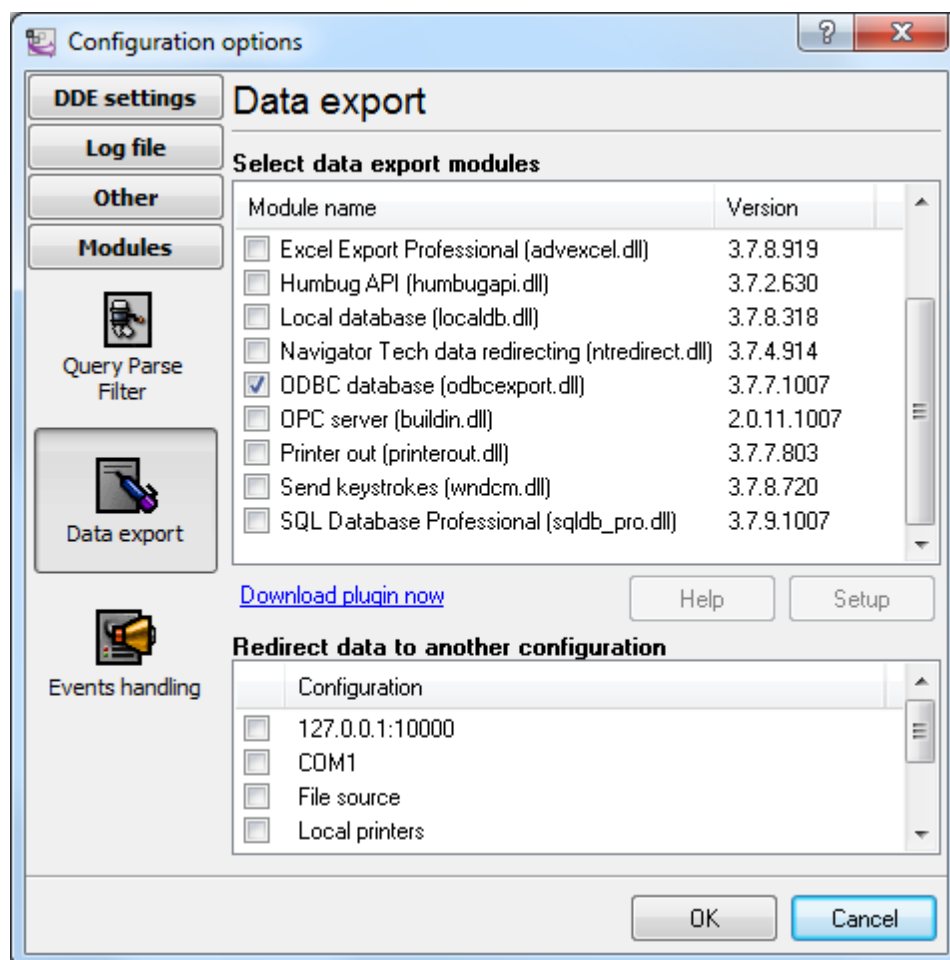

Fig. 5 Selecting the data export plug-in
6. Select the data export plug-in (fig. 5)